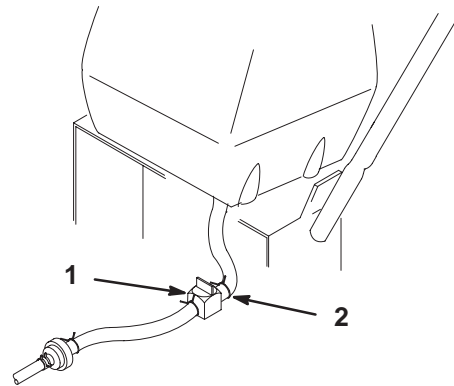

Figure 42
2. Close fuel shut-off valve at fuel tank (Fig. 42).
3. Squeeze the ends of the hose clamp together and slide it up the fuel line away from the fuel filter (Fig. 42).
4. Pull the fuel line off the fuel filter (Fig. 42). Open the fuel shut-off valve and allow gasoline to drain into a gas can or drain pan.
3. Close fuel shut-off valve at fuel tank (Fig. 42).
7. Open fuel shut-off valve at fuel tank (Fig. 42).
8. Check for fuel leaks and repair if needed (Fig. 42).